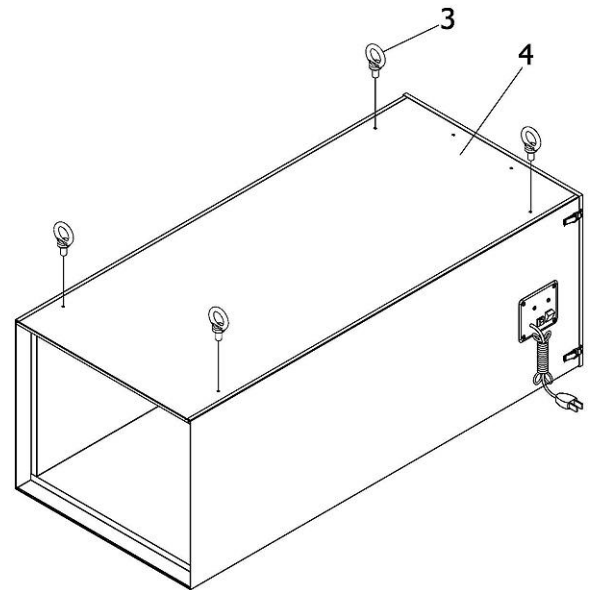

Fig.1
1. To assemble, first place the hanger (NO.3) to cabinet (NO.4) and tighten up. See FIG.1